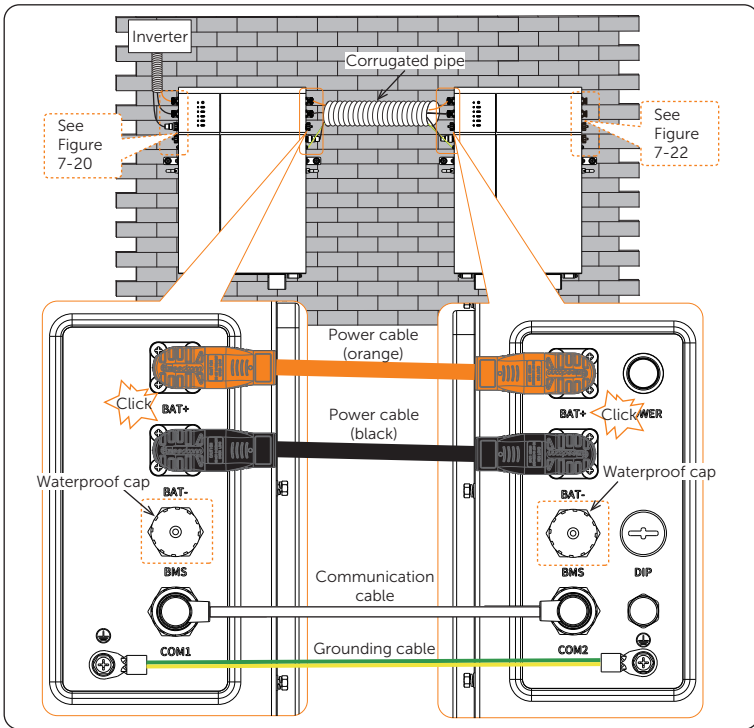

Figure 7-21 Cable connection between adjacent battery pack
- Step 2:** Connect the negative power cable to the "BAT-" ports of adjacent battery packs. Connect the positive power cable to the "BAT+" ports of adjacent battery packs. Connect the communication cable (Part L) to the "BMS" ports of adjacent battery packs. Cover the "BMS" ports of adjacent battery packs with waterproof caps, and tighten them clockwise. Make sure that power cables and communication cable are wired correctly, as shown in Figure 7-21. Failing to do so may cause severe damage to your battery pack.